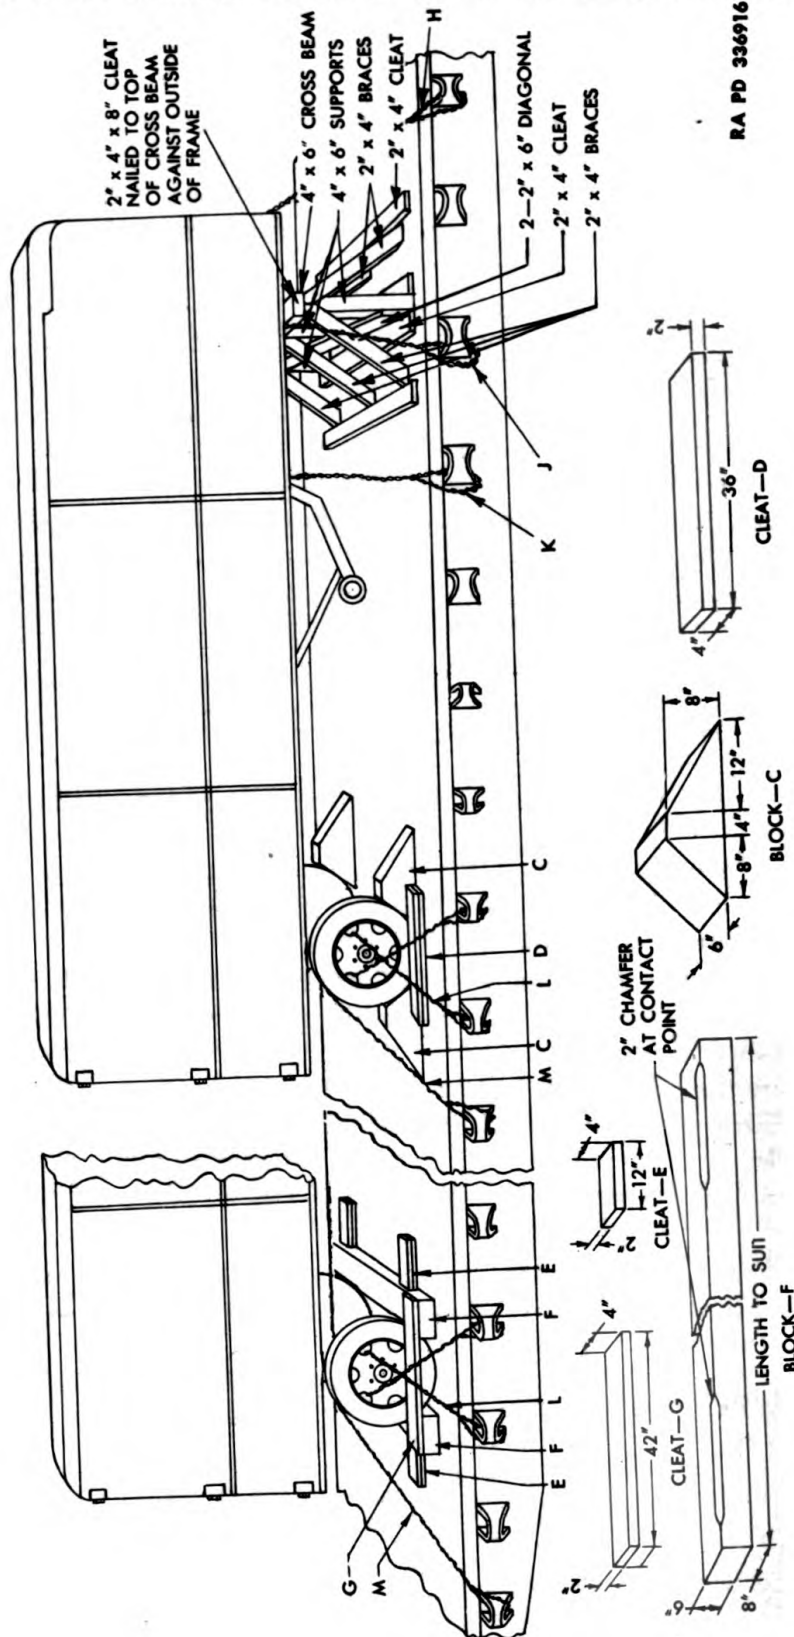

Figure 47—Blocking Requirements for Rail Shipment
c. **Securing Vehicles.** In securing or blocking a vehicle, three motions: lengthwise, sidewise, and bouncing, must be prevented. Two methods for blocking vehicle on freight cars (fig. 47) are given below. **NOTE:** *All wheel blocking must be located against the outside wheel of the dual.*
(1) **FIRST METHOD (FRONT OF VEHICLE)** (fig. 47). Position supporting frame to the rear of and against the kingpin so that cross beam is at right angles to the trailer frame, nail one cleat (2-in. x 4-in. x 8-in.) to the top of the cross beam against the outside of the frame on each side, using four 40-penny nails for each cleat. Toe-nail the
(2) **FIRST METHOD (REAR OF VEHICLE)** (fig. 47). Place one block (C) at the front of each outside wheel and one at the rear of each outside wheel (four blocks (C) required). Nail the heel of the block to the car floor with five 40-penny nails, and nail the portion of the block under the tire to the car floor with two 40-penny nails. Place two cleats (D) to the outside of each wheel (four cleats (D) required). Nail the lower cleat to the car floor with three 40-penny nails, and nail the top cleat to the cleat below with three 40-penny nails.
(3) **STRAPPING VEHICLE** (fig. 47). Secure vehicle in front (H) and at the side (J) by strapping, consisting of four strands, two wrappings, of No. 8 gage, black annealed wire, passed through the upper section of landing gear, and secure at the stake pockets of the railroad car. Secure center of vehicle (K) by strapping, passing wire around chassis frame and attaching at the closest stake pocket. Secure vehicle at axle (L) by passing wire through opposite openings in the wheels, and attaching at the closest stake pocket of the car. Secure vehicle at the rear by passing wire through the spring shackles (M), and attach at stake pockets of the car. *NOTE: Angularity of strapping at the rear should be approximately 45 degrees.*
(4) **SECOND METHOD (FRONT OF VEHICLE)**. The front of the vehicle is blocked the same as in first method (step (1) above).
(5) **SECOND METHOD (REAR OF VEHICLE)** (fig. 47). Place one block (F) across the front and one across the rear of the wheels. Blocks (F) must be at least as long as the over-all width of the vehicle at the car floor. Place cleats (G) against the outside face of the wheels on top of blocks (F). Nail cleats (G) to blocks (F) with 40-penny nails, using two nails at each end of cleat (G). Place cleats (E) against blocks (F), two to the front and two to the rear of each outside wheel. Nail each lower cleat to the car floor with three 40-penny nails, then nail each top cleat to the cleat below with three 40-penny nails.
(6) **STRAPPING VEHICLE**. Strapping is applied in the second method as in step (3) above.